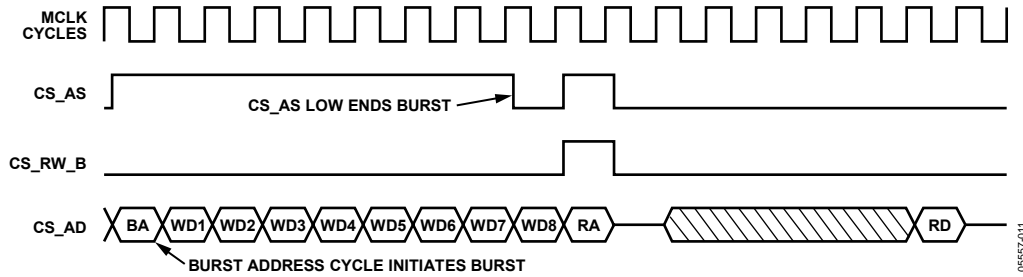
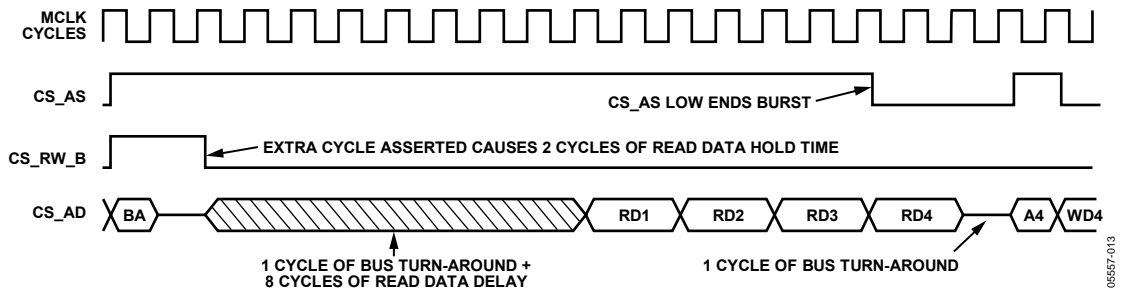

Figure 17. Write Burst Mode Functional Timing
Figure 19. Read Burst Mode with Read Data Hold Functional Timing
Burst mode is a special mode that allows for successive reads or writes with a predetermined addressing scheme. Figure 17 shows the burst mode operation of the bus. The primary purpose of burst mode is to allow fast writes into the waveform memory for each channel. Burst mode is initiated and completely controlled via the bus interface pins of the ADATE207.
Burst mode is initiated with a special address cycle, as defined in Table 12. Burst mode cycles are shown in Figure 17 through Figure 19 and incorporate the following conditions:
- When extended read data hold mode is selected during a read burst, the internal address bus increments every other cycle, causing read data on the CS_AD bus to change every other cycle, as shown in Figure 19.